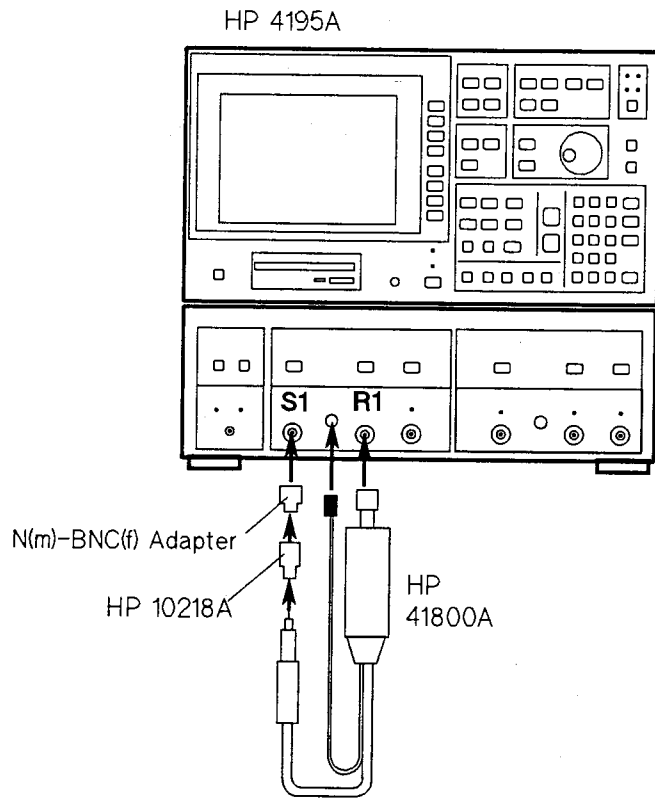

Figure 3-3. Operating Check Setup Using The HP 4195A
Figure 3-3 shows the operating check setup using the HP 4195A network/spectrum analyzer.
1. Connect the equipment as shown in Figure 3-3.